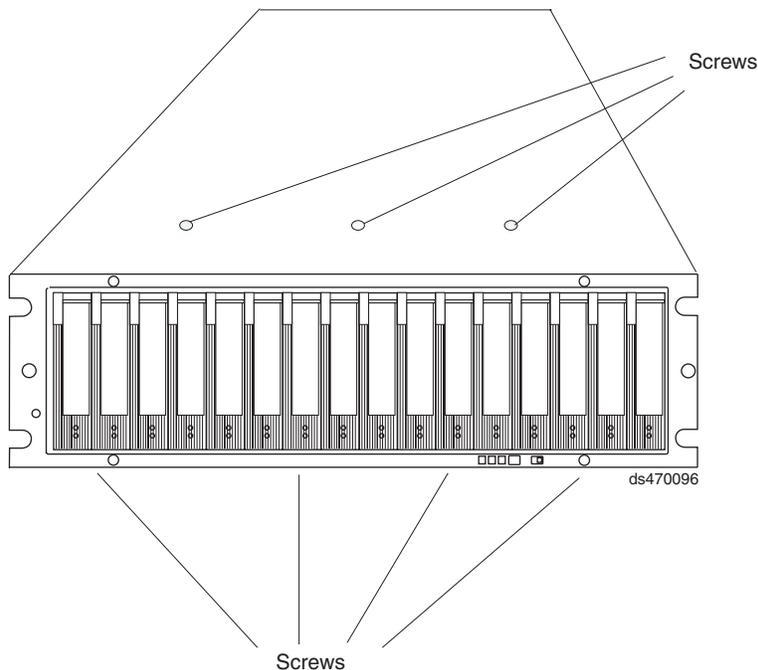

Figure 40. Screws holding the top and bottom sides of the chassis to the cage frame
- Pull the chassis outward from the front of the rack and remove from the rack. Place it on a level surface. Look for a row of three Phillips screws on top of the chassis and a row of four Phillips screws on the bottom of the chassis, as shown in Figure 40. Remove the seven Phillips screws using the #1 Phillips screwdriver. Save these screws.
- Install the seven Phillips screws (three on top and four on bottom) that hold the front cage frame to the EXP5000 chassis that you removed in step 13, as shown in Figure 40.